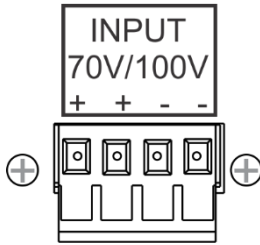

Figure 5: Plugging and Securing the Cable
5. Plug the connector into the socket (see Figure 5).